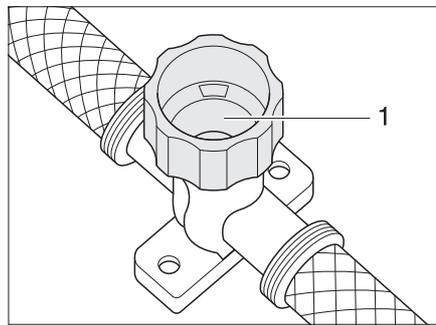

Fig. 135 Drain cock for water heater
- Close the drain cock. To do so, turn the cap (Fig. 135,1) clockwise.
- Open the drain cock of the water heater. To do so turn the cap (Fig. 135,1) anticlockwise.